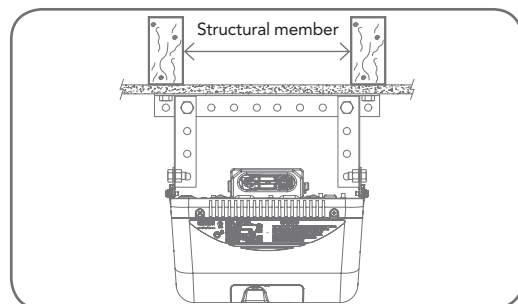

fig 19
- Secure the perforated angle (not supplied) to the ceiling above where powerhead's mounting holes will be once fully installed. A representative mounting is shown (**Fig. 19**)
- Secure the perforated angle (not supplied) to the ceiling above where powerhead's mounting holes will be. See (Fig. 19) for a representative mounting.
- Connect the powerhead to the ceiling mounted perforated angle with M8x20mm screws and nuts. Strips should not extend more than 18mm below centre of powerhead mounting holes (Fig. 19).